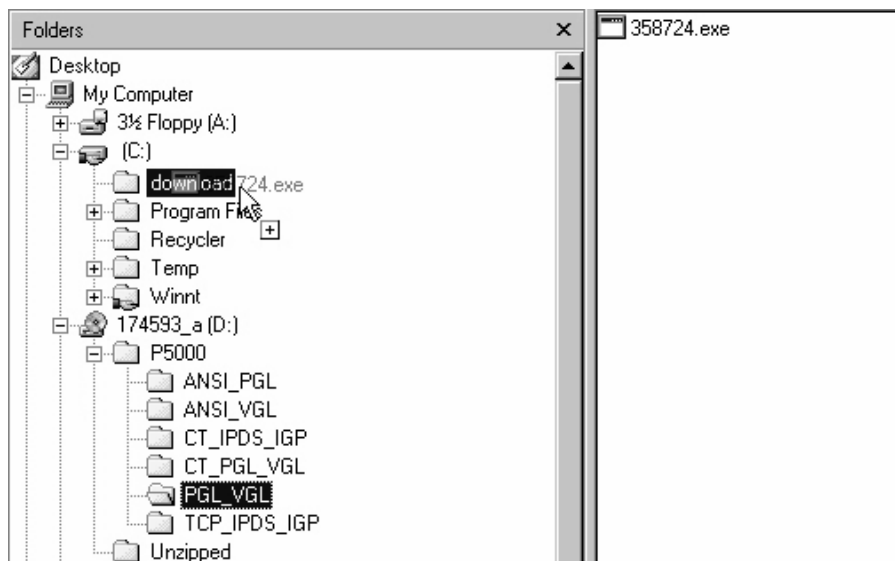

Figure 17. Copying the Emulation File to the Download Directory
19. Copy the file to the download directory. You may need to hold the **Ctrl** key to make sure a **+** appears to the right of the pointer. (See Figure 17.)